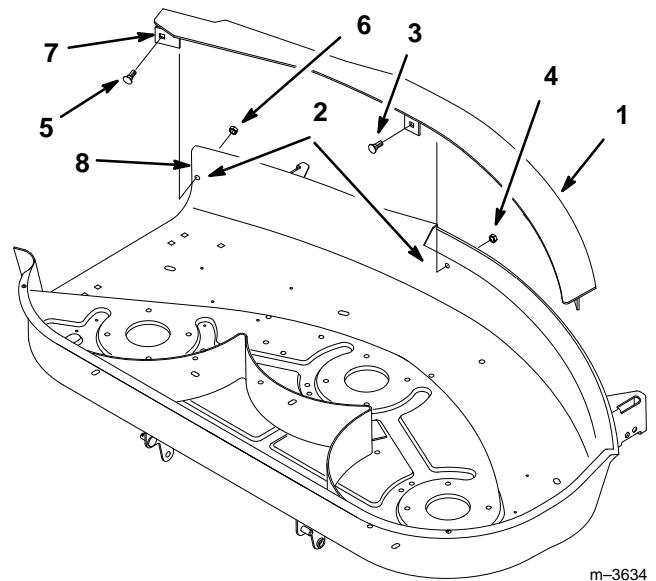

**Figure 5**
1. Remove the discharge chute and mounting brackets from the mower (Fig. 5).